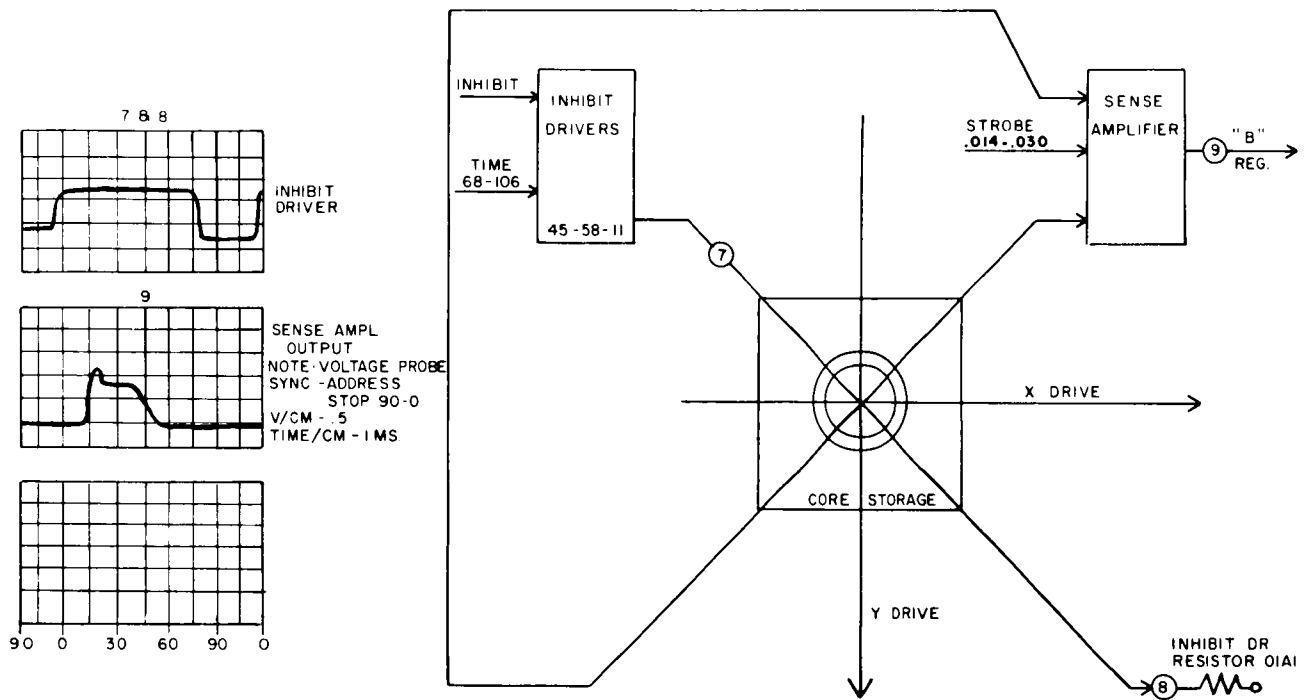

Figure 98. Inhibit and Sense Amplifier Scoping
5. Check the drive pulses at the terminating resistor board for current waveshapes (Figures 98 and 99).